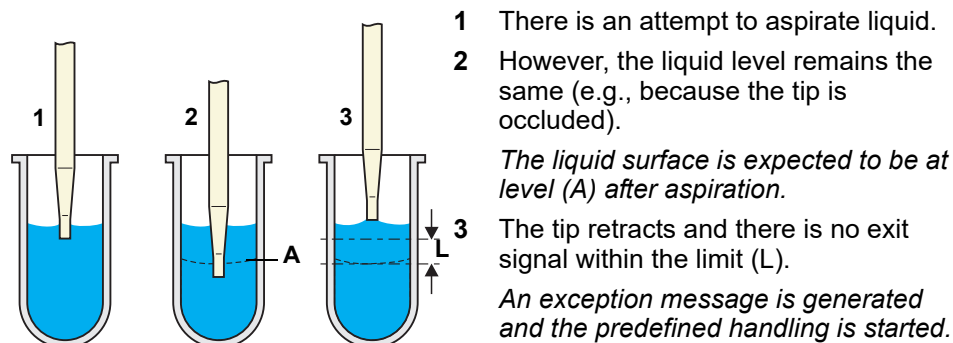

Fig. 3-19 Tip occlusion during aspiration
- A tip occlusion during aspiration causing insufficient volume aspiration (see Fig. 3-19 "Tip occlusion during aspiration", 3-26).